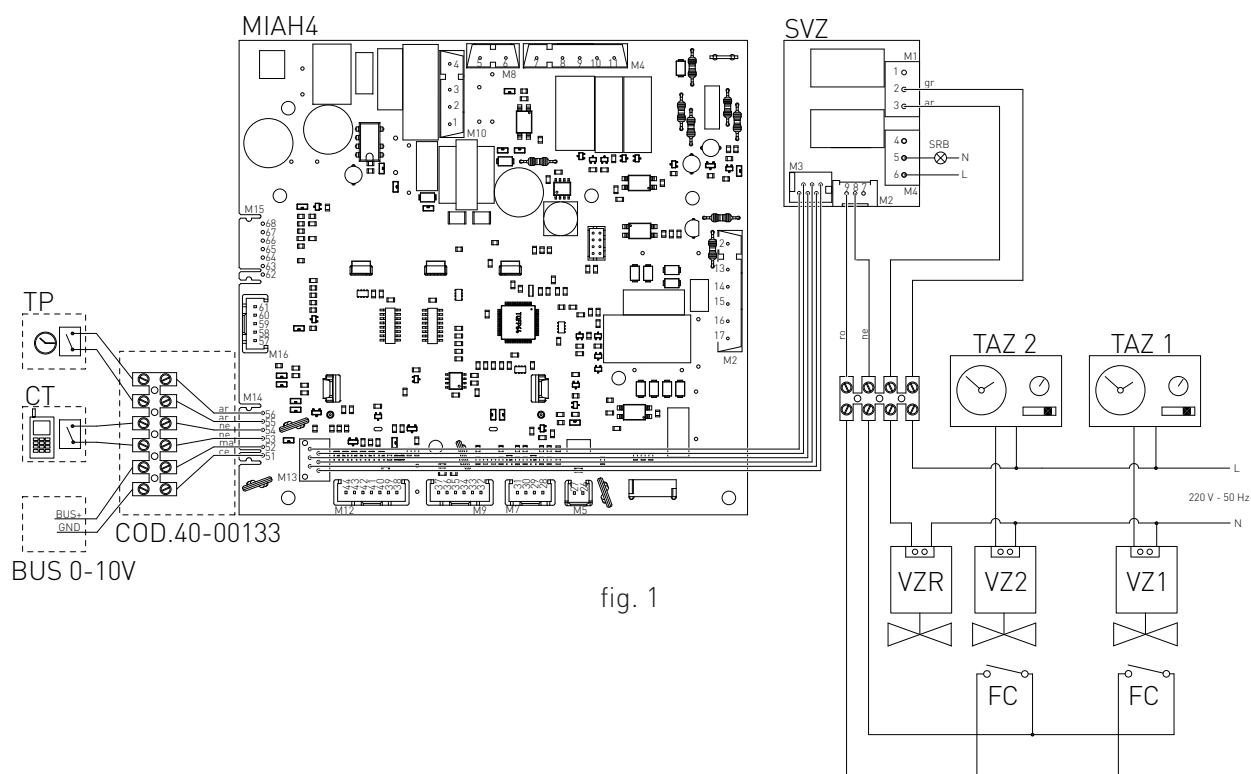

fig. 1
- › remove the front casing of the boiler (see chapter ACCESSING THE BOILER); unscrew the screws and remove plate "A" (see fig. 1).
- › After removing the plate, connect the electrical cables to terminal "B" (see fig. 1):
- (TP) DOMESTIC HOT WATER PRE-HEATING DEACTIVATION TIMER
- (CT) TELEPHONE DIALER
- › after removing the crankcase, connect the items below to the electronic board (see fig. 1):
- › If a vertical fumes duct is installed, insert a condensate collection siphon at the base of the duct connected to the sewerage system of the location (fig. 1).
For this type of boiler are available the following fumes discharge configurations: B23P, B33, C13, C33, C43, C53, C63, C83 e C93 (see Fig. 1).